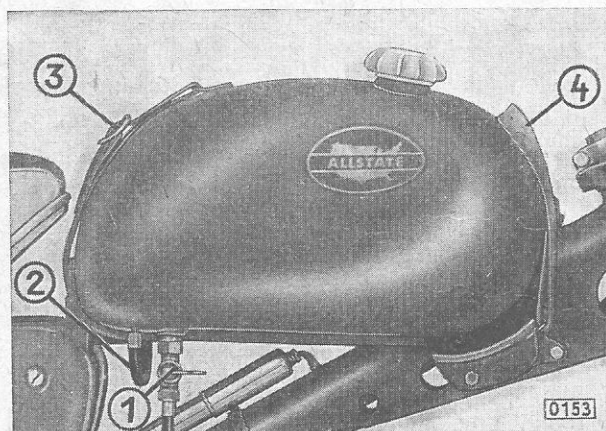

Fig. 26: Stripping the fuel tank:
1. Drain fuel (fig. 26/1).
2. Pull off fuel pipe (fig. 26/2).
3. Undo the two straps (fig. 26/3 and fig. 26/4) and take off fuel tank.